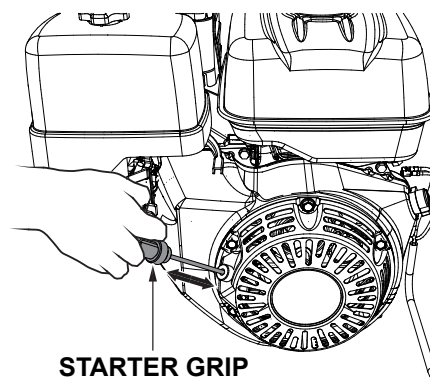

Figure 33. Starter Grip
7. Slowly pull the starter grip (Figure 33) until resistance is felt, then pull briskly and smoothly to start the engine. Once the engine has started, gently return the starter grip to its original position.